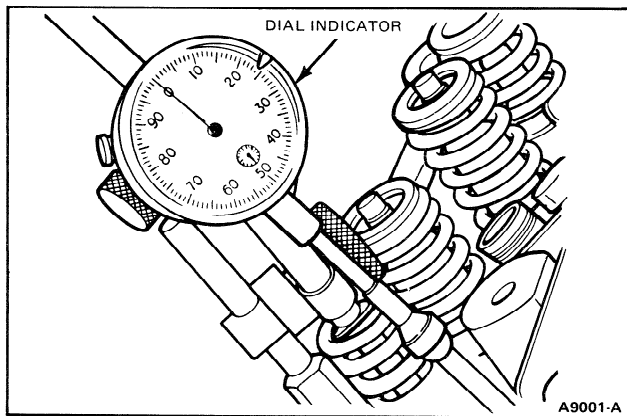

FIG. 6 Testing Camshaft Lobe Lift
3. Make sure the push rod is in the valve lifter socket. Install a dial indicator in such a manner as to have the ball socket adapter of the indicator on the end of the push rod and in the same plane as the push rod movement (Figure 6).